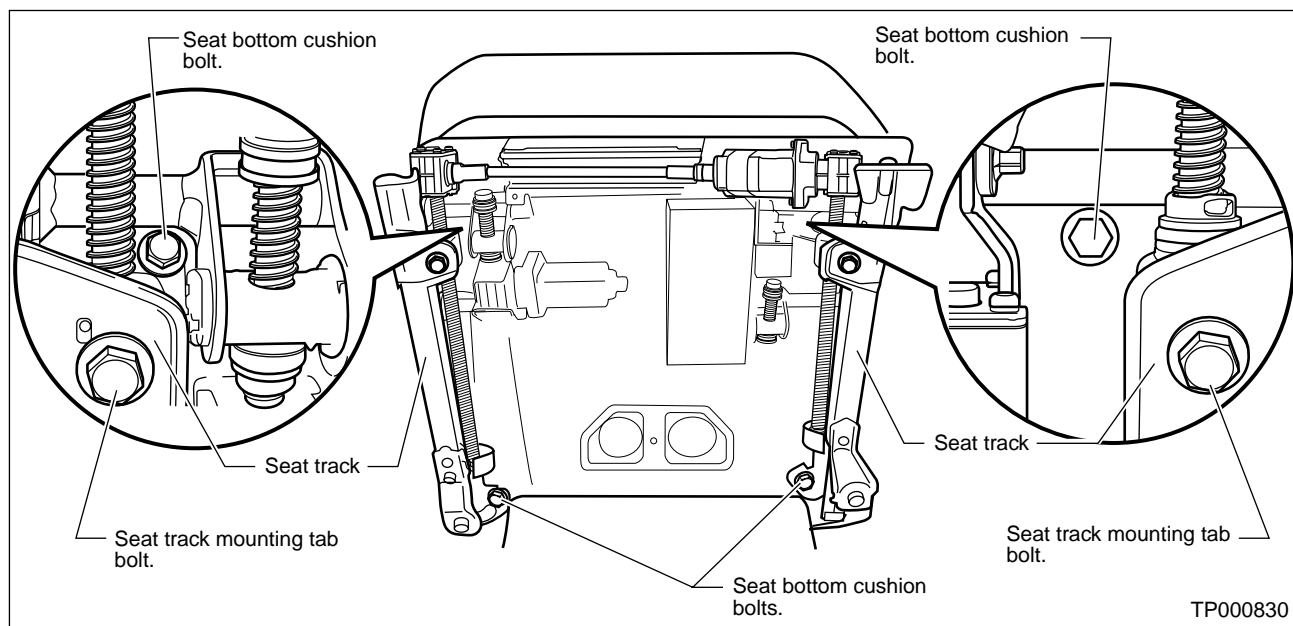

Figure 4
12. Remove four M8 (12mm head) bolts which will release the seat bottom cushion from the seat frame (see figure 4).
- Then, remove the two M6 (10mm head) bolts from the seat track mounting tab on both sides (see figure 4).
26. Re-install four M8 (12mm head) bolts to tighten the seat bottom cushion to the seat frame (refer to figure 4 on page 3, if needed). Bolt torque: 13-17 ft-lb (17.5-23.7 Nm).